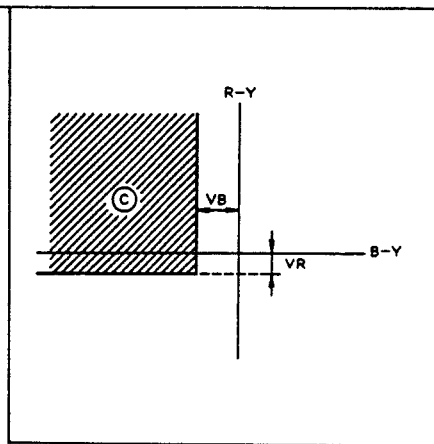

Fig. I-19
Yellow detection is effective within the range shown in b of Fig. I-19 (C). Quantities of B-Y and R-Y offsets in negative direction are determined according to V_B and V_R .